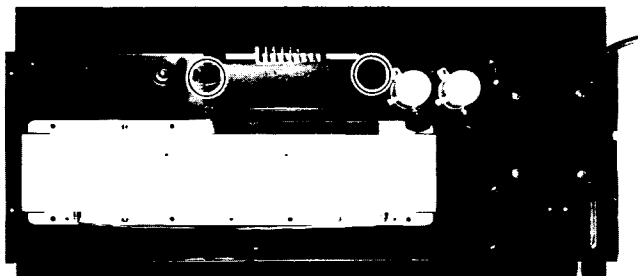

Fig. 4
2. Remove the 2 screws holding the MA circuit board to the chassis, as shown in Figure 4, and pull it up.